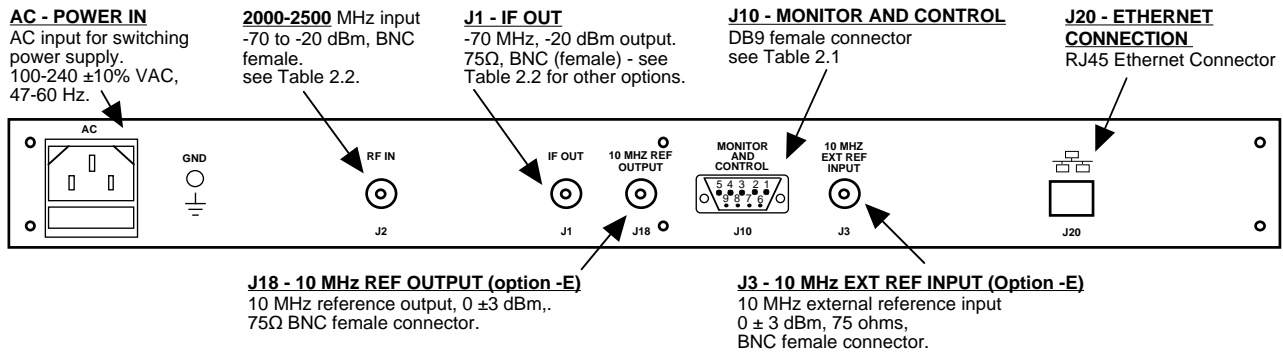

FIGURE 2.2 2016-25 Downconverter Rear Panel Inputs/Outputs
2.2 Rear Panel Input/Output Signals - Figure 2.2 shows the input and output connectors on the rear panel.
1. Connect a -70 dBm to -20 dBm signal to RF In, J2 (Figure 2.2)
Alarm indications appear on the LEDs (see figure 2.2).